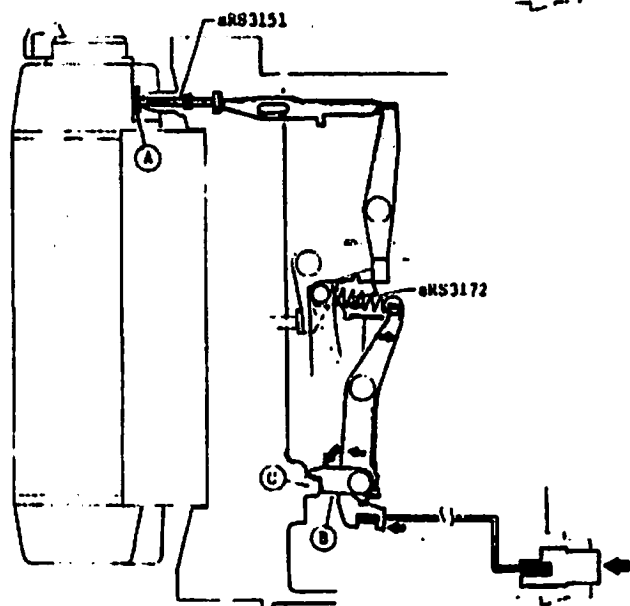

Fig. 77
- (4) In above condition, Spring (aRS3172) is extended by pushing the shutter button more deeply, and Stop plate (B) hits Body lug (C). Consequently, shutter button can not be released and double exposure is prevented. (Fig. 77)